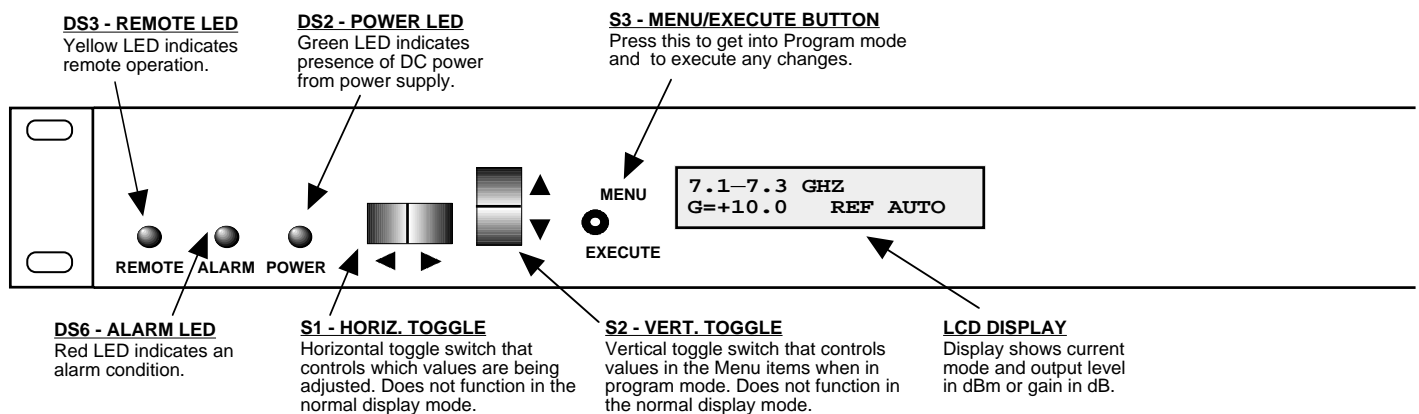

FIGURE 2.2 3115-73 Front Panel Controls and Indicators
Figure 2.2 shows the front panel controls and indicators.
5. Be sure DS2 (green, DC Power) is on and DS6 (red, Alarm) is off (Figure 2.2).
Alarm indications appear on the LEDs (see Figure 2.2).